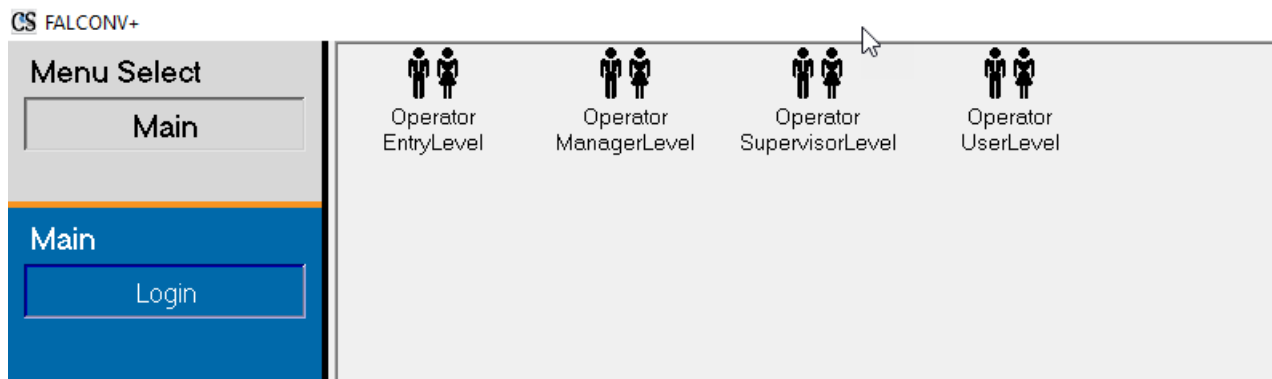

Figure 3-2: CertainScan Main Login
5. The CertainScan Main screen will display for Operator Login (Figure 3-2).